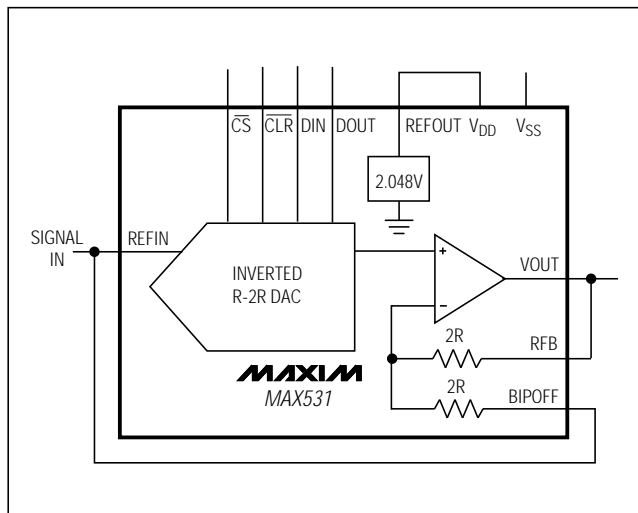

Figure 9. MAX531 Connected as Four-Quadrant Multiplier. The unused REFOUT is connected to VDD.
The MAX531 can be used as a four-quadrant multiplier by connecting BIPOFF to REF and RFB to VOUT, using (1) an offset binary digital code, (2) bipolar power supplies, using dual power supplies, and (3) a bipolar analog input at REF within the range  $V_{SS} + 2\text{V}$  to  $V_{DD} - 2\text{V}$ , as shown in Figure 9.